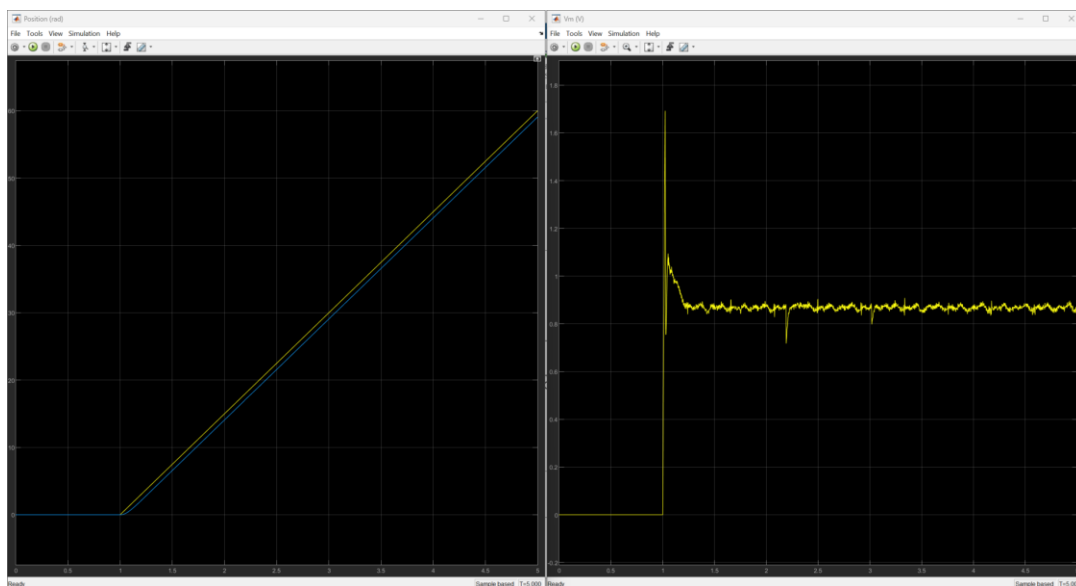

Figure 4: Screen capture of PD control with a Ramp response.
21. Save a Screenshot of the Ramp response, the response should be like Figure 4. Using the measurement tool in the scope, measure and write down the steady state error when using PD control. Is the calculated value of the same as the value found in the experiment? If not, give reasons.